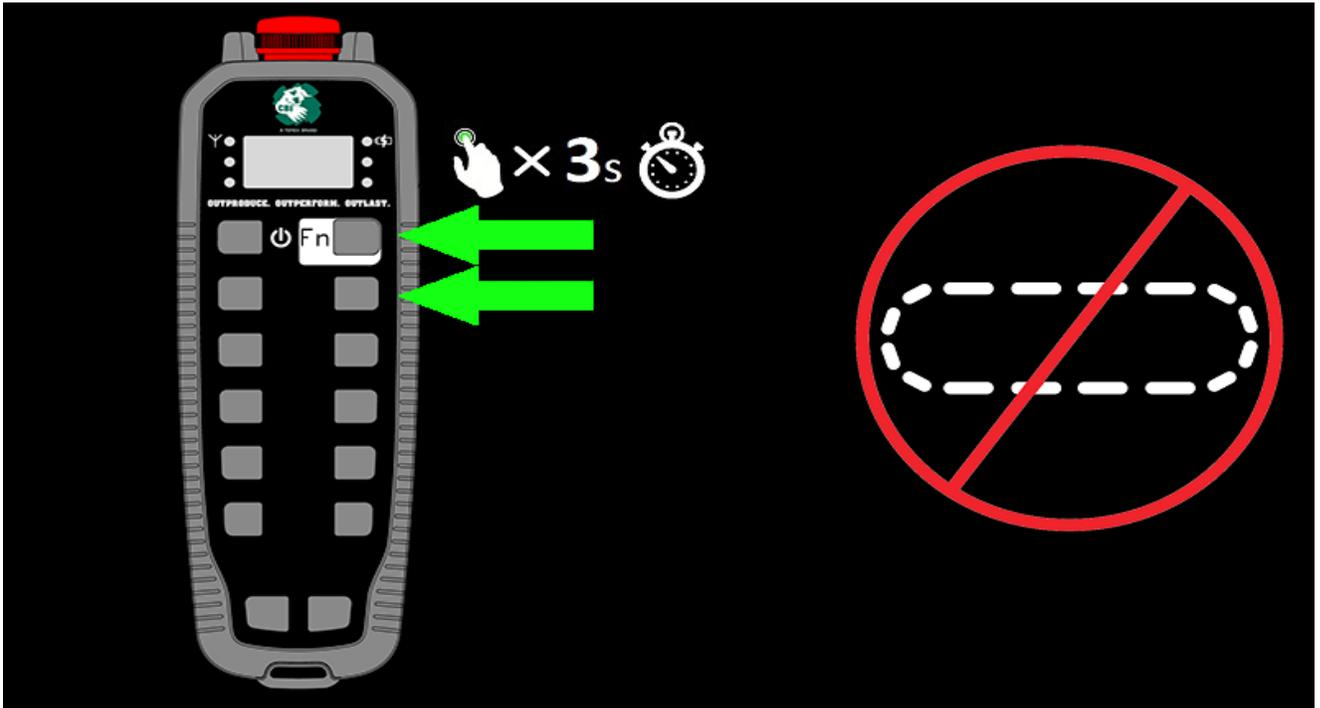

Figure 5.9 - Disable Track Mode on the Remote
11. Press and hold the FUNCTION and RUN MODE SCROLL buttons for one second to disable TRACK MODE (Figure 5.9).